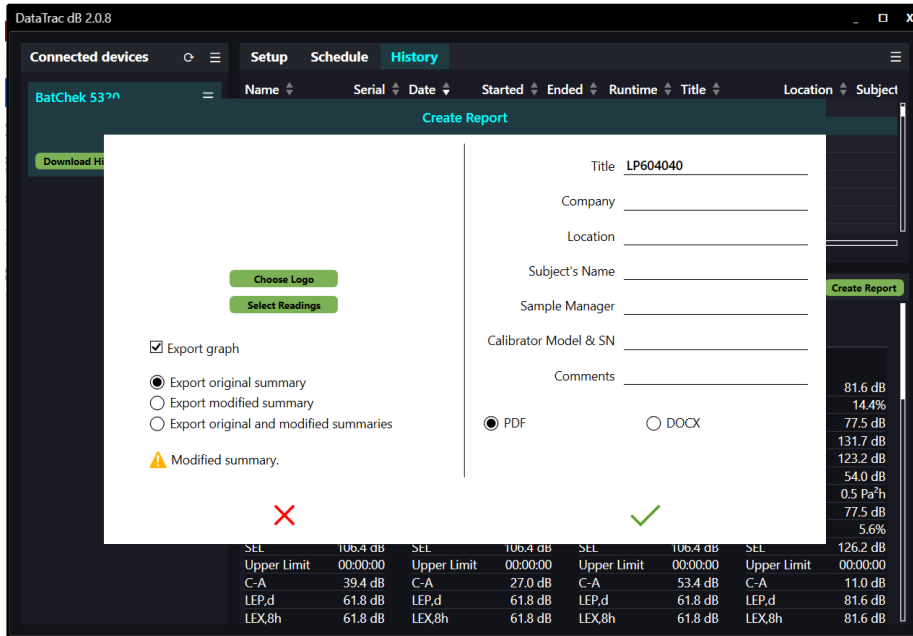
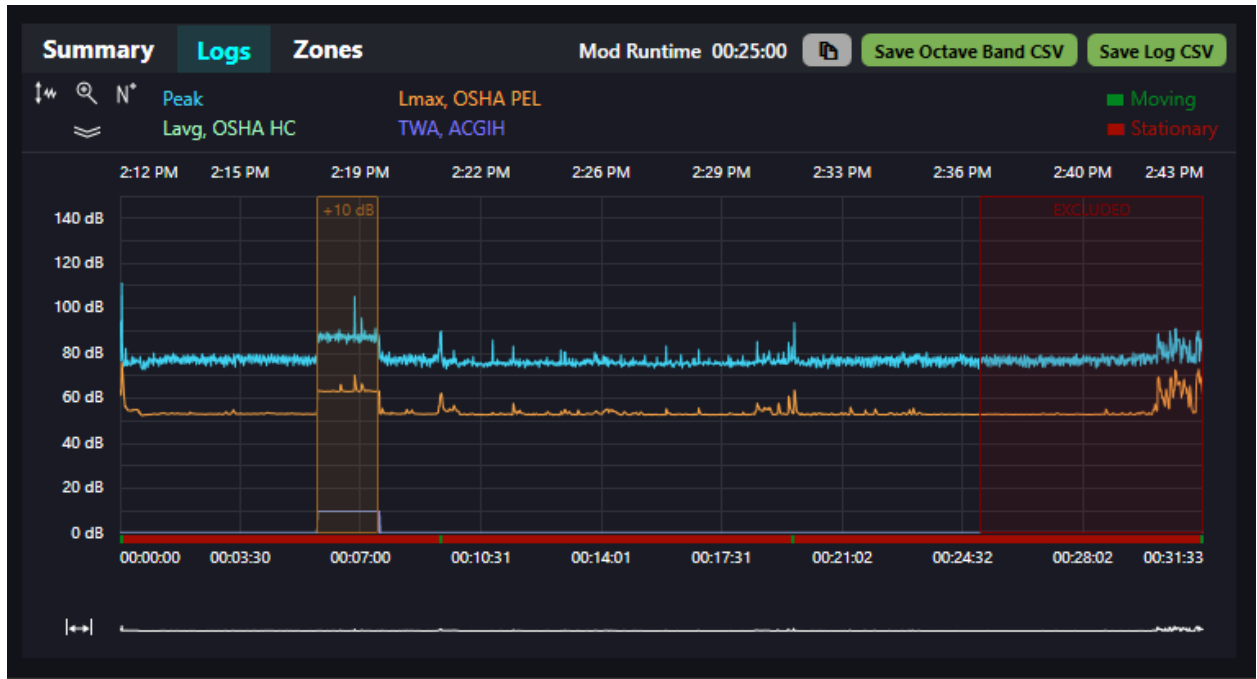

Figure 11. Create Report
Figure 15. Zone Displayed in Logs Graph
3. Click Create Report to create a summary report in PDF or Word (DOCX) format. In the Create Report window (Figure 11), make the desired selections and entries.
1. **Add zone.** Click icon and use cursor to drag and select desired zone. In Add Zone window (see below), select exclusion or offset, start/end times, and +/- dB value as applicable. Also see Zones – Exclusion and Offset. A warning message that data has been modified will appear in the Summary and, if the modified summary is exported when creating a report (see Figure 11), in the summary report. See the example in Appendix B.
When exclusion or offset zones are added, a warning message that data has been modified will appear in the Summary and, if the modified summary is exported when creating a report (see Figure 11), in the summary report.
5. The zone is listed under the Zones tab and displayed in the Logs graph (see Figure 15). Modified run time is shown. Both the original and modified data summaries will be displayed in the Summary tab and one or both can be exported to the summary report. See Figure 11 and Appendix B.